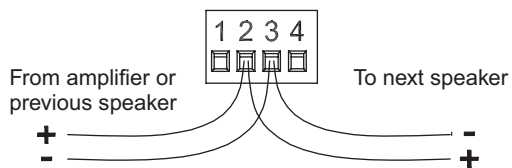

Figure 9: Parallel wiring
1. Wiring in parallel. Connect the wire pair of the subsequent speaker to pins 2 and 3. When one input connector is removed, subsequent speakers will remain connected. See Figure 9.